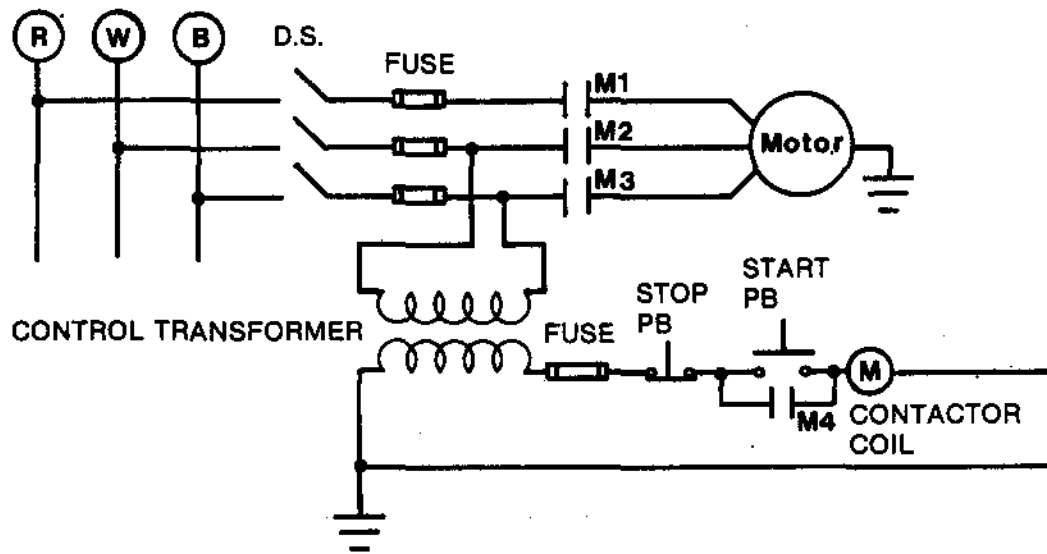

Figure 4(D)
The section that follows will discuss OVERLOAD. Figure 4(D) is almost complete, as a contactor control system. However, it lacks motor overload protection.